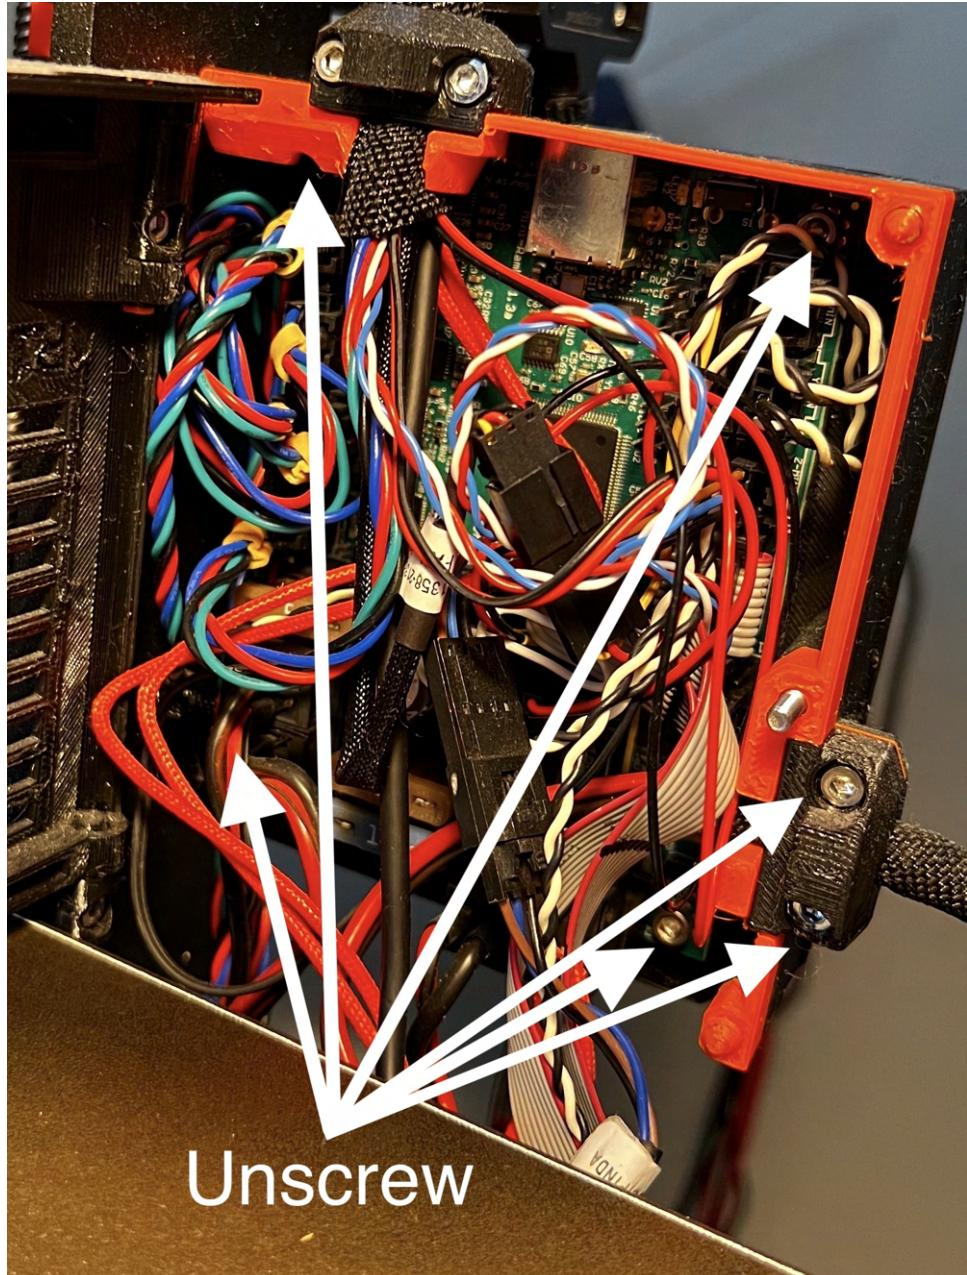
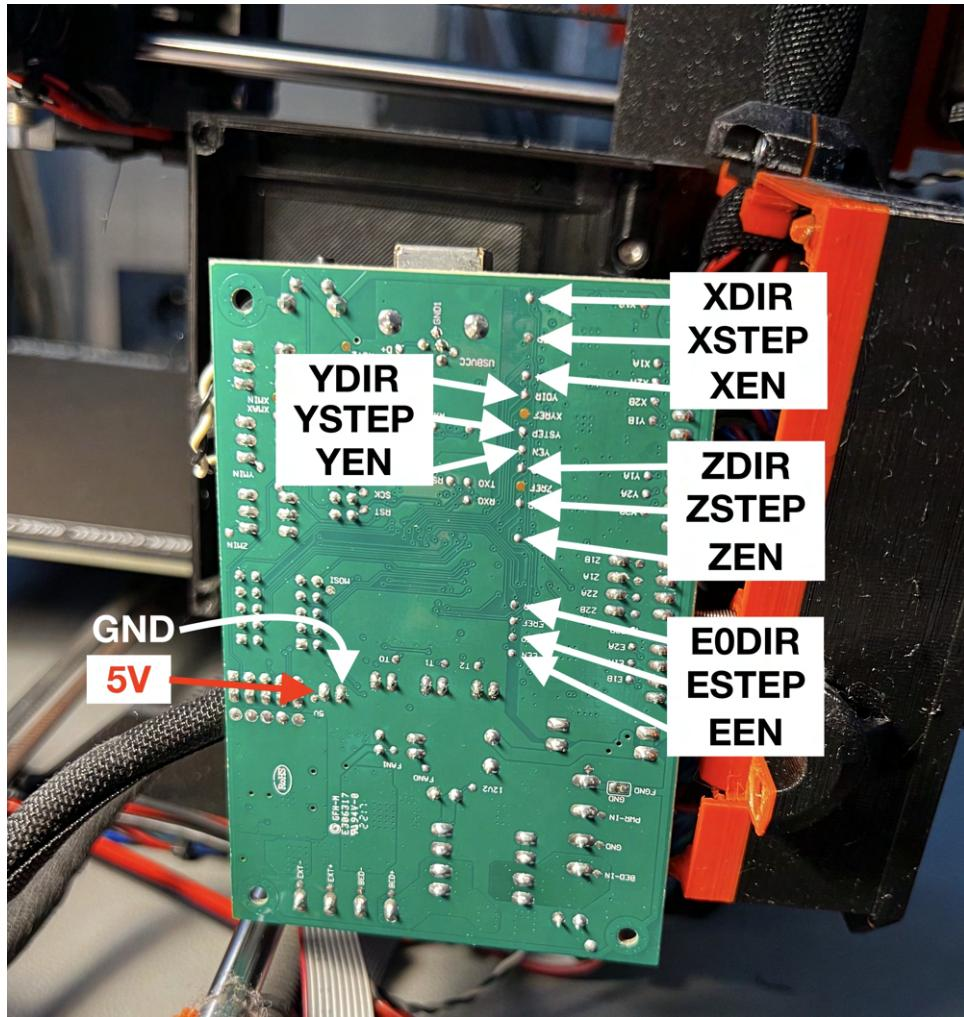
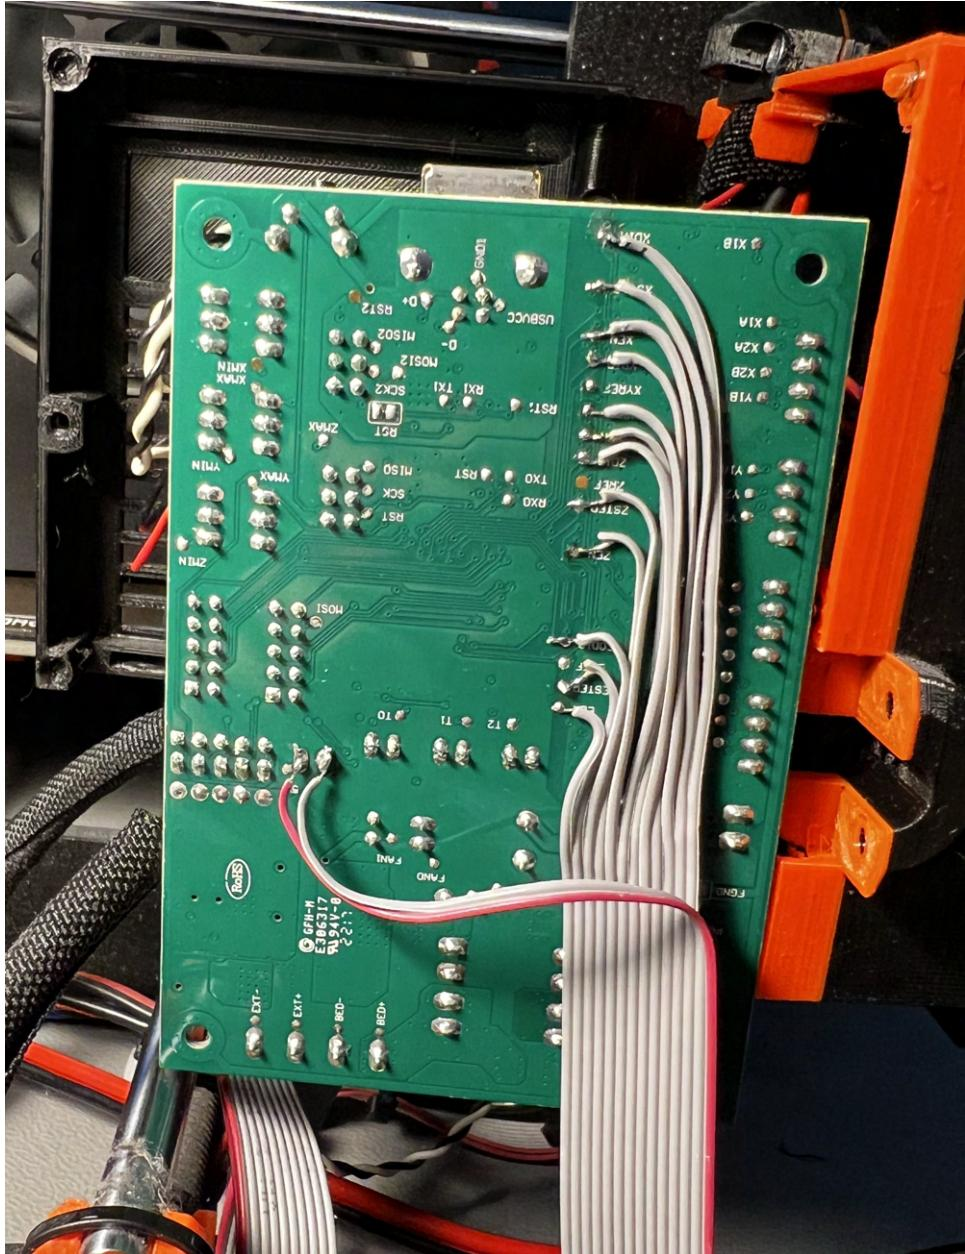

Figure 6: Front side Rambo control board.
Figure 11: Recommended position for Rambo control board to solder data pins.
Figure 12: Data pins soldered to Rambo for **XYZE** board.
Moving on to the main board, I suggest that you only unscrew the board from the Rambo base while leaving all the wires connected. While you are free to approach this step as you see fit, I have found that this method makes soldering the data pins easiest. Begin by unscrewing the screw on the Rambo cover and opening it. Unscrew the screws marked in Figure 6, and move the Rambo board to the position shown in Figure 11. This will provide easy access to the pads that need to be soldered to the data pins on the ribbon cable.
**IMPORTANT:** Before beginning with the soldering, it's important to note that the pads' names are marked on the Rambo board, as shown in Figure 11. It's crucial to watch out for the REF pins located close to the other pins and make sure you don't accidentally solder a data pin to one of those. Additionally, the data cable's orientation should be such that the red cable is located towards the right, ensuring the correct orientation of the connector to the upgrade board, as shown in Figure 12.
After you have finished soldering to data pins the result should look like Figure 12. You can use some silicone or similar to glue the cables in place.